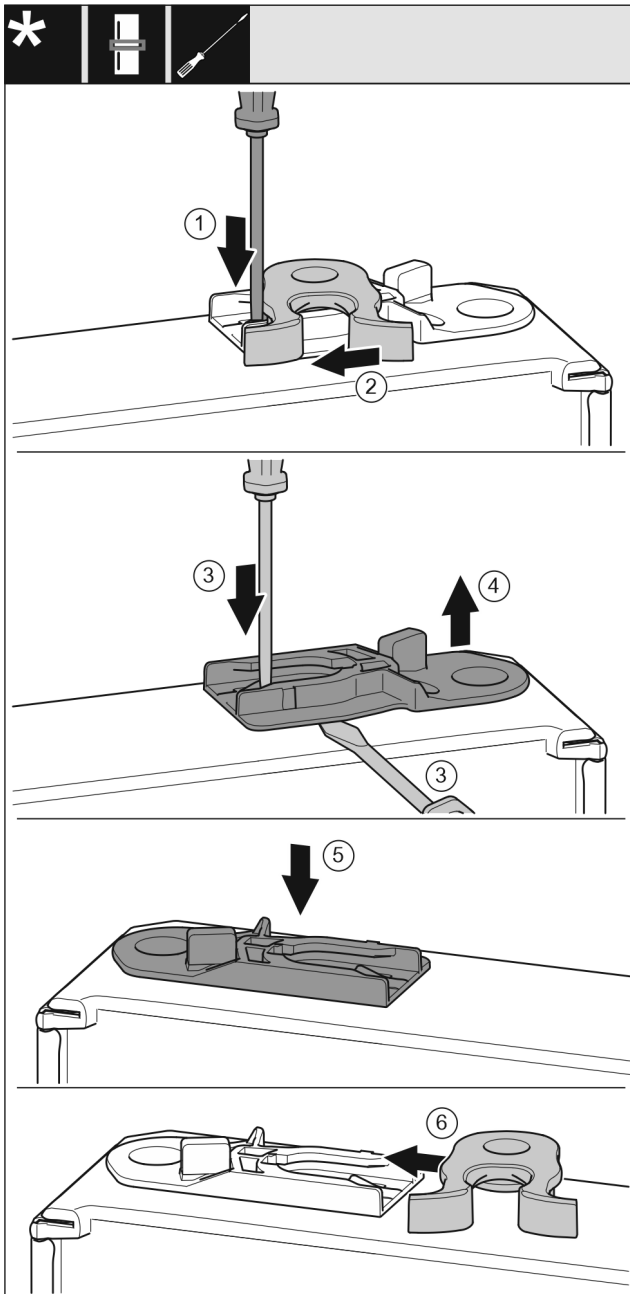

Fig. 18
- Push the lug downwards with a slotted screwdriver. Fig. 18 (1)
- Pull the door latch out of the guide. Fig. 18 (2)
- Pull out the guide bush: Press the lug with a slotted screwdriver and, at the same time, insert the slotted screwdriver under the guide bush. Fig. 18 (3, 4)
- Slide the guide bush included in the scope of supply to the other side of the housing. Fig. 18 (5)
- Push the door latch into the guide. Fig. 18 (6)